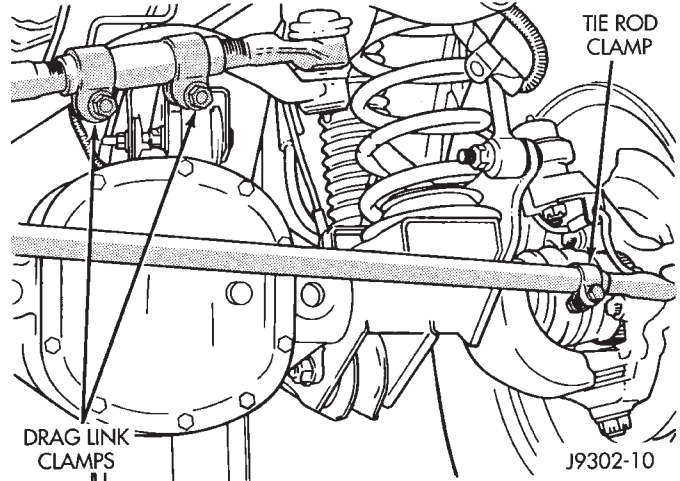
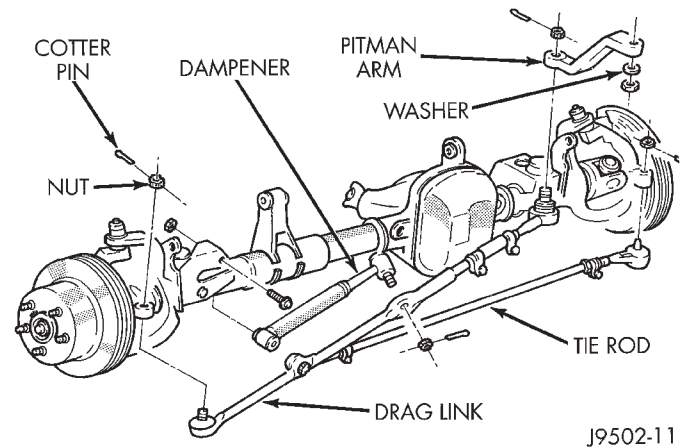

Fig. 3 Drag Link and Tie Rod Clamp (LHD)
Fig. 4 Steering Linkage (LHD)
(1) Start the engine and turn wheels both ways before straightening the steering wheel. Center and secure the steering wheel.
(2) Loosen the adjustment sleeve clamp bolts (Fig. 3).
(3) Adjust the right wheel toe position with the drag link (Fig. 4). Turn the sleeve until the right wheel is at the correct positive TOE-IN position. Position the clamp bolts as shown (Fig. 3) and tighten to:
(4) Adjust the left wheel toe position with the tie rod. Turn the sleeve until the left wheel is at the same TOE-IN position as the right wheel. Position the clamp bolts as shown (Fig. 3) and tighten to: